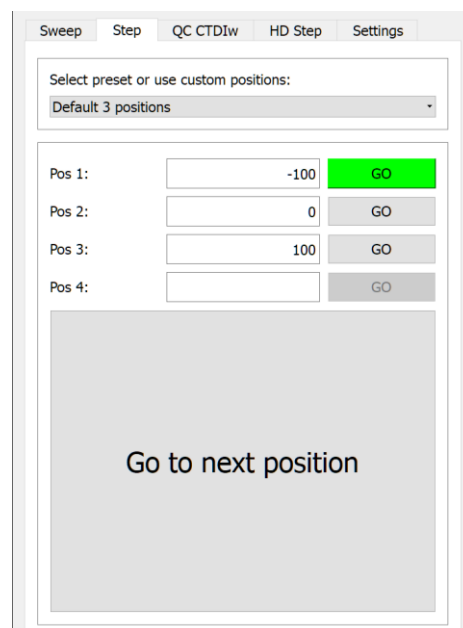

Figure 40. Step mode.
2. Select positions to measure, Figure 40.
3. Push the “Go” button to the right of the position, Figure 40.
6. Repeat steps 3 through 5 for the other positions or click the “Go to next position” button, Figure 40, to advance to the next position in the list.